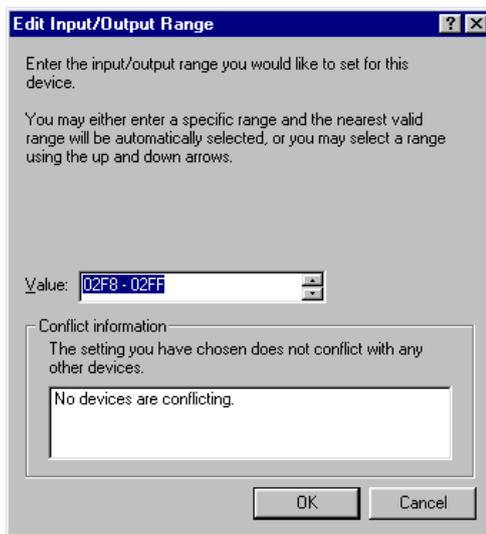

Figure 2-6
- (iii) From the **Edit Input/Output Range** dialog box, select the I/O port address to match the board setting in the "**Value**" drop-down box. (see **Figure 2-6**)